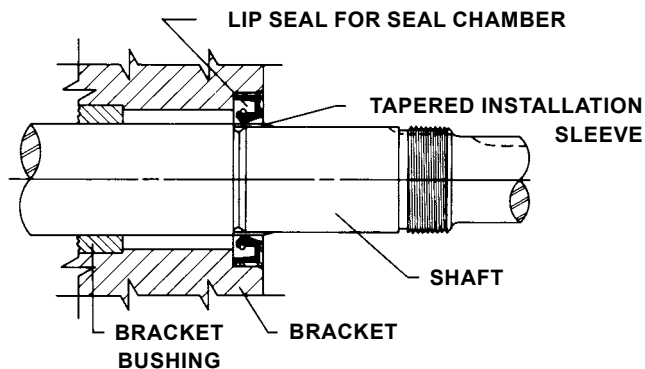

FIGURE 5
2. Install lip seal in bracket. Refer to Figure 5.